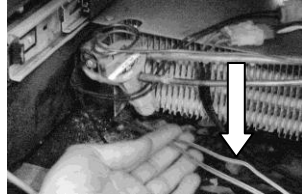

Fig. 5 – Drain tube heater wire
10. With the module half way out of the machine (Fig. 4) go around to the front, remove the drain tube heater from the drain by pulling up on braided wire (Fig. 5), check around evaporator to be sure it is disconnected and will not catch on harnesses or other objects as it slides out.
4. From the front, Press Drain Heater Wire (Fig. 5) down the drain and check clearances before sliding the unit in completely.